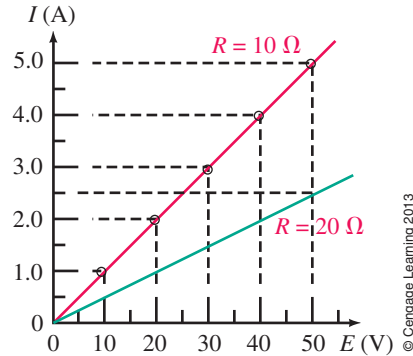

FIGURE 4-6 Graphical representation of Ohm's law. The red plot is for a 10-Ω resistor while the green plot is for a 20-Ω resistor.
The relationship between current and voltage described by Equation 4-1 may be shown graphically as in Figure 4-6. The graphs, which are straight lines, show clearly that the relationship between voltage and current is linear, that is, that current is directly proportional to voltage.
- Verify all points on Figure 4-6 for $R = 10 \Omega$.